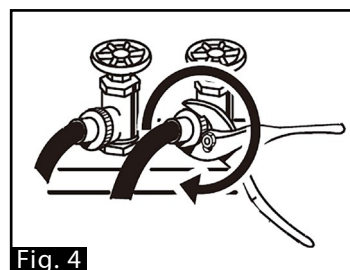

Fig. 4
1. Connect the elbow pipe to the tap on the wall and fasten clockwise (Fig. 4).